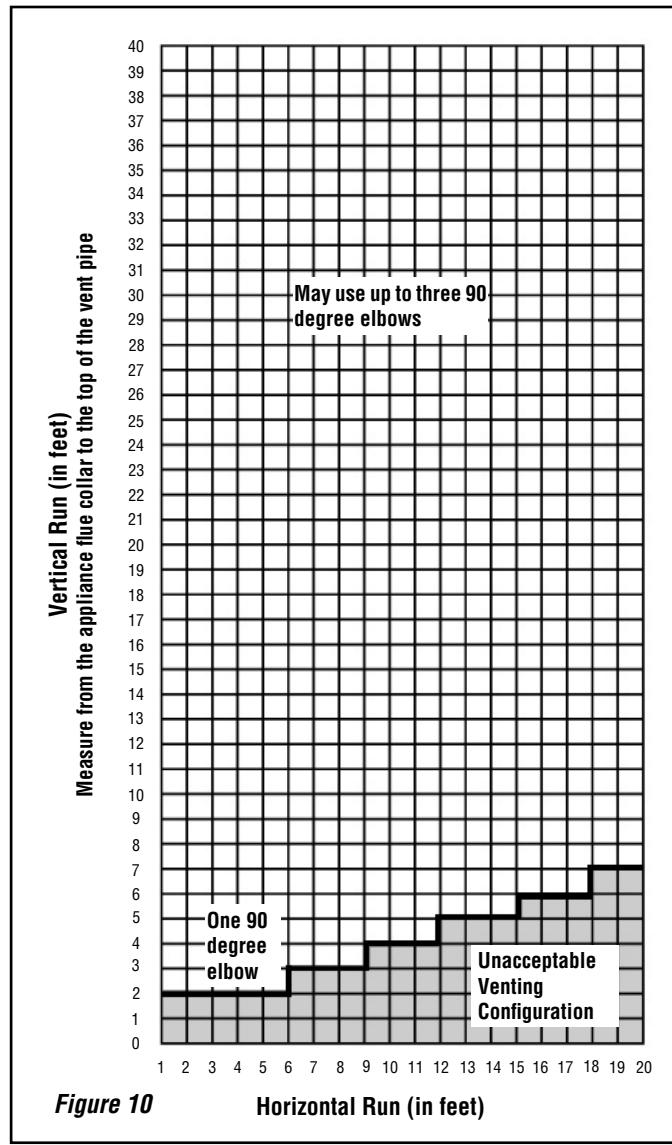

Figure 10
IMPORTANT: Do not exceed the maximum horizontal run allowed (see **Figures 10 and 11**).
The horizontal run may extend up to 20 feet (6 meters) and include a vertical rise of up to 40 feet (12 meters) - see **Figure 10**. Horizontal termination must meet the criteria shown in **Figures 4 and 5**.
- Approved vent systems must terminate above and including the heavy line in **Figure 10**.